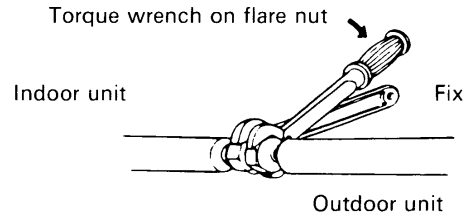

Fig. 4
2. Flare nut on large dia. tube should be torqued to 510 — 550 lbs. in. Flare nut small dia. tube should be torqued to 130 — 170 lb. in. Fig. 4